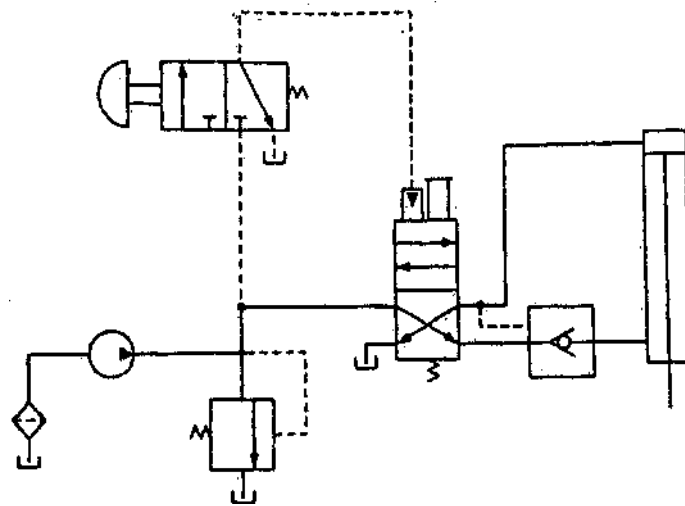

Figure 11a
- Explain 'Shuttle (OR) valve' with a neat sketch. State its application with a typical circuit. 8
11. a) Analyze the circuit shown in Figure 11a.